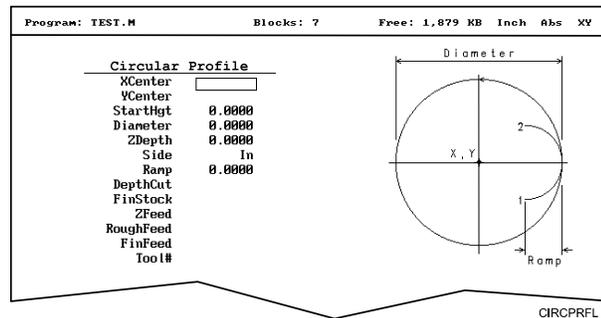

Figure 5-14, CIRCULAR PROFILE Graphic Menu
The Circular Profile Cycle cleans up the inside or outside profile of an existing circle. Refer to **Figure 5-14**.
2. Highlight **Circ.Profile**, and press **ENTER** to display the **CIRCULAR PROFILE** Graphic Menu. Refer to **Figure 5-14, CIRCULAR PROFILE Graphic Menu**.